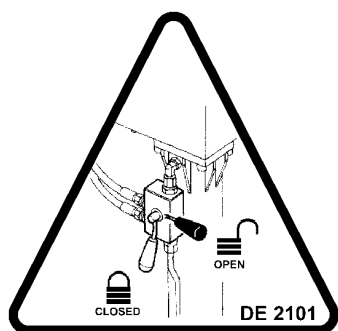

fig. 21
- Open all the taps of the valves placed on the outrigger rams of the supplementary outrigger (fig. 21)